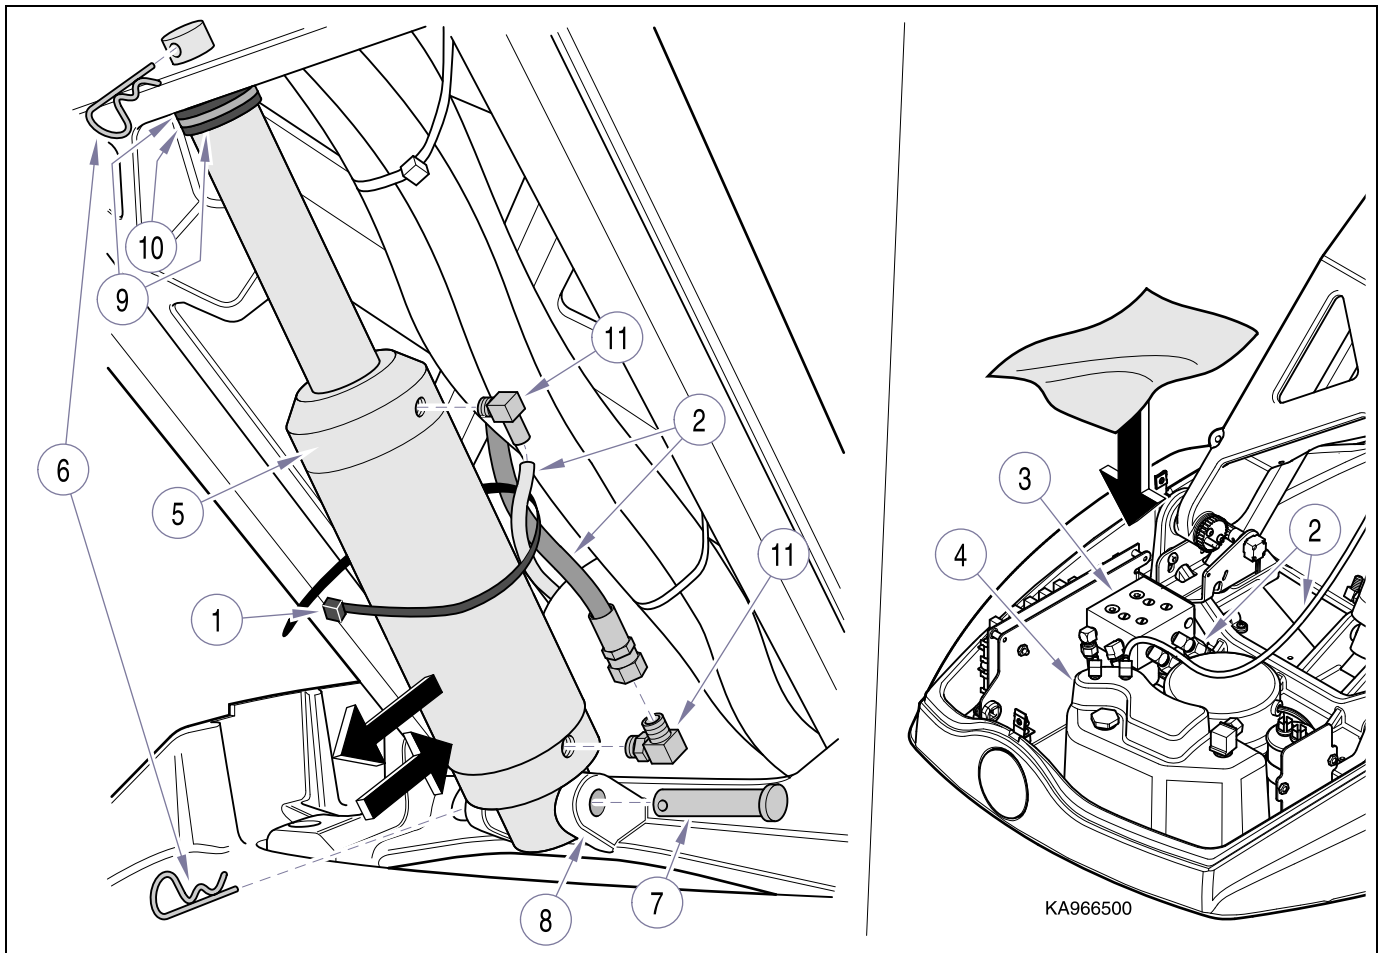

Figure 4-9. Hydraulic Base Cylinder
- (6) Mark location of cable tie (1, Fig. 4-9) that secure base cylinder leak line (2) then remove tie (1).
- (7) Place towels beneath valve block assembly (3) and reservoir (4) then disconnect hydraulic lines (2) from base cylinder (5).
- (8) Remove hairpin cotter (6) from rod-end of cylinder.
- (9) Remove hairpin cotter (6) from clevis pin (7) and extract clevis pin from lower lift casting (8).
- (10) Remove hydraulic base cylinder (5).
- (11) Remove two metal washers (9) and plastic washer (10) from rod-end of cylinder.
- (12) Remove hydraulic lines (2) and fittings (11) from base cylinder (5).
- (1) After removing shipping plugs from base cylinder (5, Fig. 4-9), install fittings (11) and lines (2).